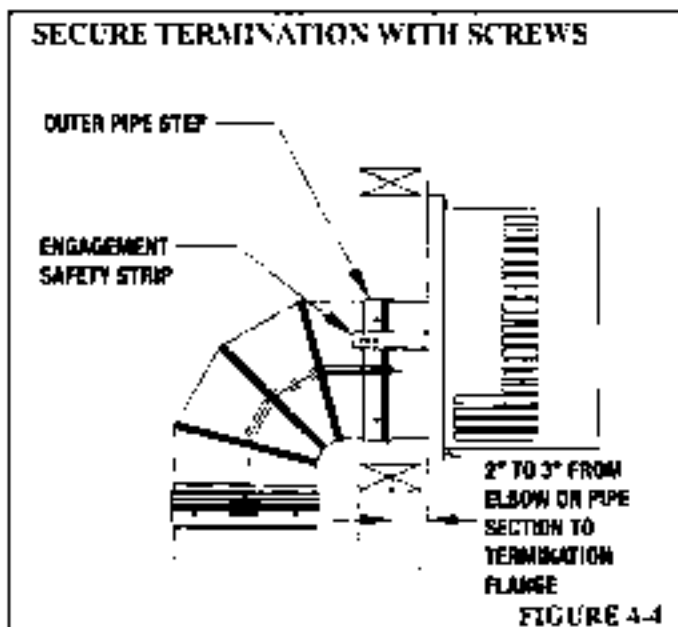

FIGURE 4-4
- 5) Position the termination as shown on figure 4-4. Insert the vent system inner pipe into the termination inner pipe. The outer pipe of the termination must slide into the open end of the vent system until the engagement safety strips on the termination are about even with the vent outlet pipe step.
- 7) Secure the termination to the vent pipe using the #14 x 1-1/2" sheet metal screws (provided) through the holes on the engagement safety strips. See figure 4-4.
NOTE: The **minimum** clearance from the termination outer pipe to combustible materials is 3" on the top and 1" on the bottom and sides. The termination design will allow the proper clearances to be maintained when centered in the frame opening and secured to the studs. See figure 4-4.